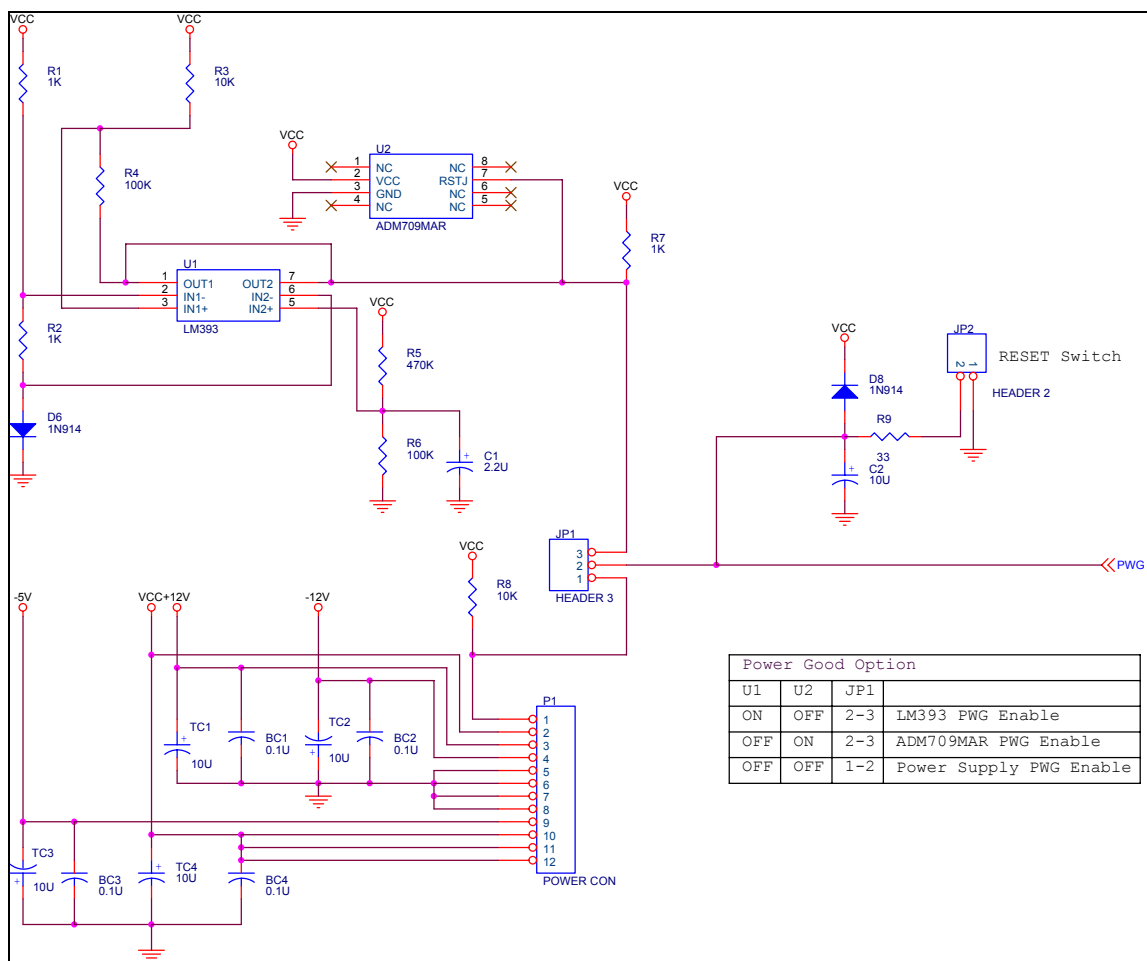

Fig.1 Power good circuit
0. Please refer to Fig.1 for PWG circuit.